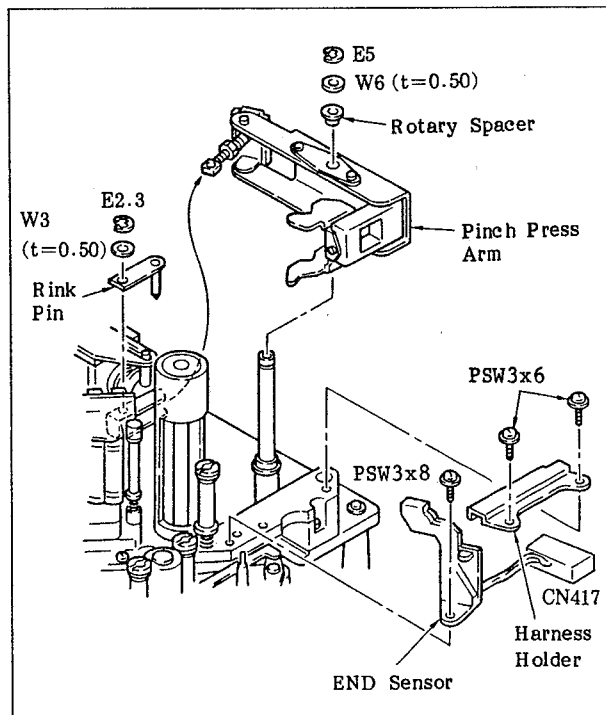
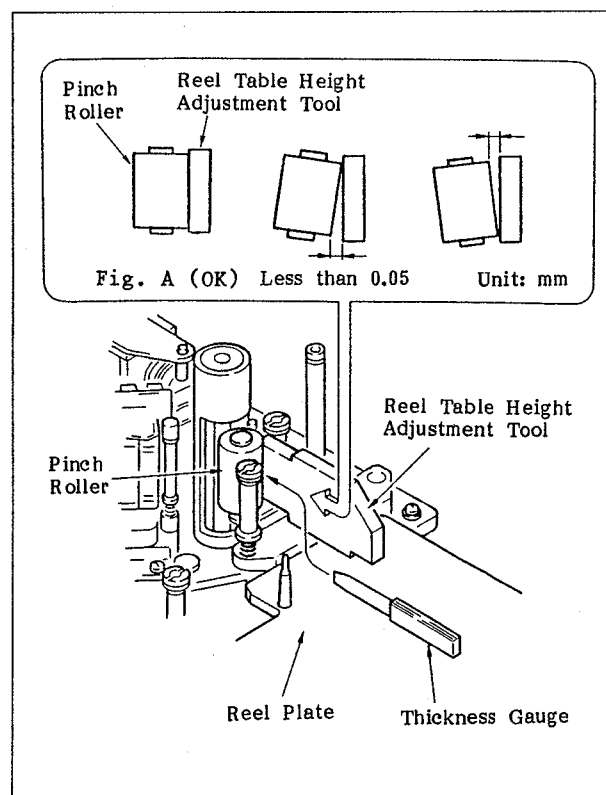

Fig. 6-93 Preparation before Making the Adjustments
Fig. 6-94 Check of the Azimuth of the Pinch Roller
- Remove the pinch press arm, END sensor, harness holder, and the connector (CN417) of the END sensor, by referring to Figure 6-93.
- Press the **F3** (C), **4**, **SET**, **F6** (F), **0**, **SET** and **>** keys on the control panel in that order to set the reel motor in the M cassette position.
- Press the **F6** (F), **2**, **SET** and **<** keys on the control panel in that order to set it in threading condition without loading a cassette tape.
- Place the reel table height adjustment tool against the pinch roller, as shown in Figure 6-94. In case there is no gap at the top nor bottom as shown in Fig. A, azimuth adjustment is unnecessary. So move on to the step 0. If there is a gap at either top or bottom, however, azimuth adjustment is required. So implement the following procedures.
- Set the pinch roller adjustment tool as shown in Figure 6-93.